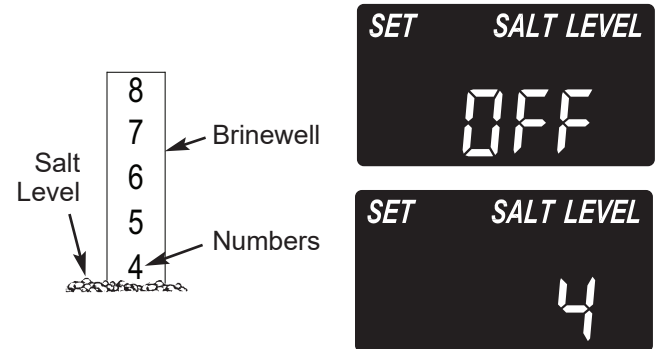

FIG. 22
2. The salt level scale, on the brinewell inside the tank, has numbers from 0 to 8 (see Fig. 22). Observe the highest number the leveled salt is at, or closest to.